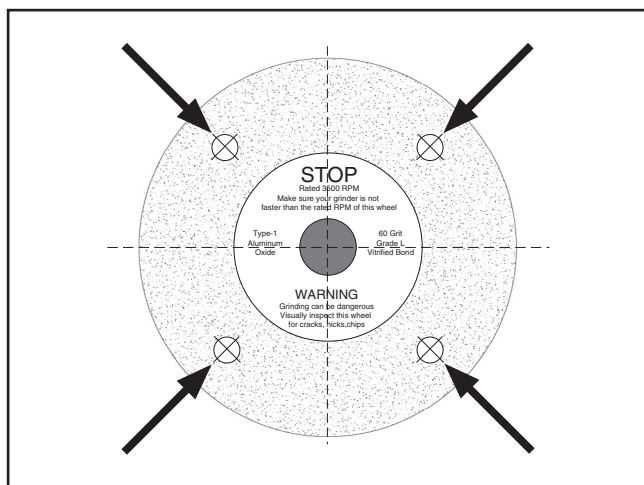

Figure 12. Tapping locations when performing a ring test.
3. At the spots shown in **Figure 12**, gently tap the wheel with a light non-metallic device such as the handle of a screwdriver or a wooden mallet.